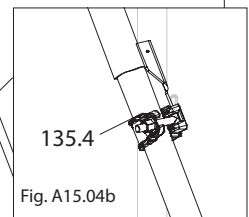

Fig. A15.04b
3. Loosen the bottom coupling (135.4) and extend the multi brace until the required support angle of  $\alpha \leq 60^\circ$  has been reached. Tighten the bottom coupling. (Fig. A15.04b)